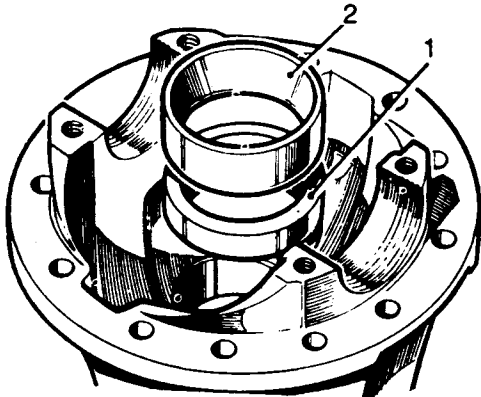

Fig J2.51
- (1) Refer to Fig J2.51. Fit shim (1) of same thickness removed during dismantling, in pinion head bearing seat.